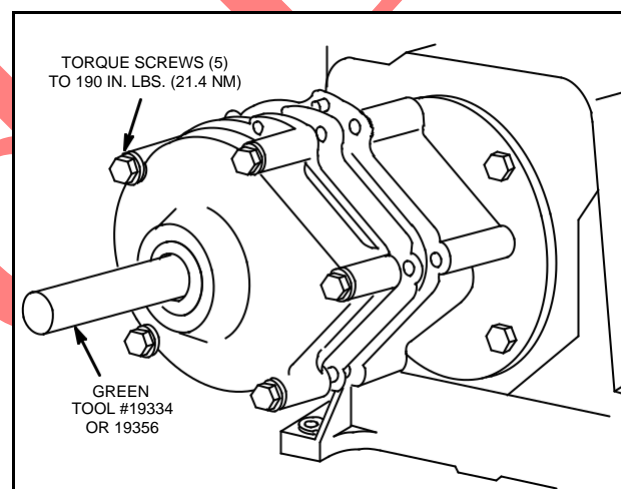

Fig. 149 - INSTALLING GEAR CASE COVER ASSEMBLY
7. Install screws and lockwashers and torque screws to 190 in. lbs. (21.4 Nm), Fig. 149.